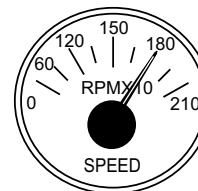

Figure 47. Engine Tachometer Gauge
10. The **tachometer gauge** (Figure 47) will indicate the speed of the engine when the generator is operating. Under normal operating conditions this speed is approximately 1800 RPM's.